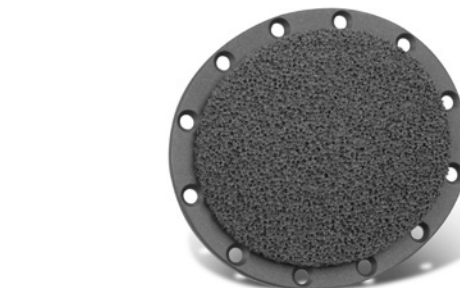

Fig. 50
- To compensate for gross bone deficiency, the *NexGen* Augmentation Patella is available (Fig. 50). The Augmentation Patella provides the additional option of suturing the patella base to the bone remnant or extensor mechanism to provide adjunctive fixation. Refer to the *NexGen* Augmentation Patella Surgical Technique (97-5988-102-00) for additional information.